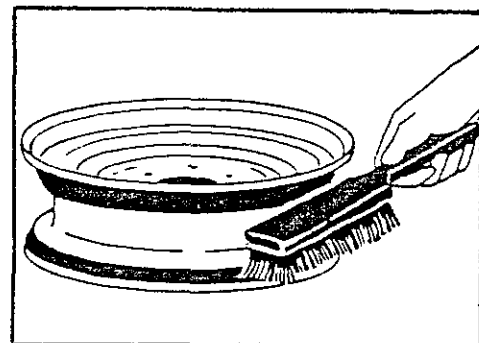

Fig. 1-5
The rim should be inspected for any damage or abuse. If it has been repair-welded or brazed, the rim should be discarded. Make sure the rim area is clean and free of rust, corrosion and debris. The entire area of rim and shoulder well should be wirebrushed (Fig. 1-5).
B. Mounting - Prepare the tire and rim for mounting the same as in machine method above. (Figs. 1-5, 1-6).